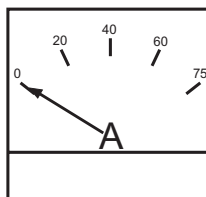

Figure 32. Ammeter (No Load)
12. The ammeter (Figure 32) will indicate zero amps with no load applied. When a load is applied, this meter will indicate the amount of current that the load is drawing from the generator's alternator.